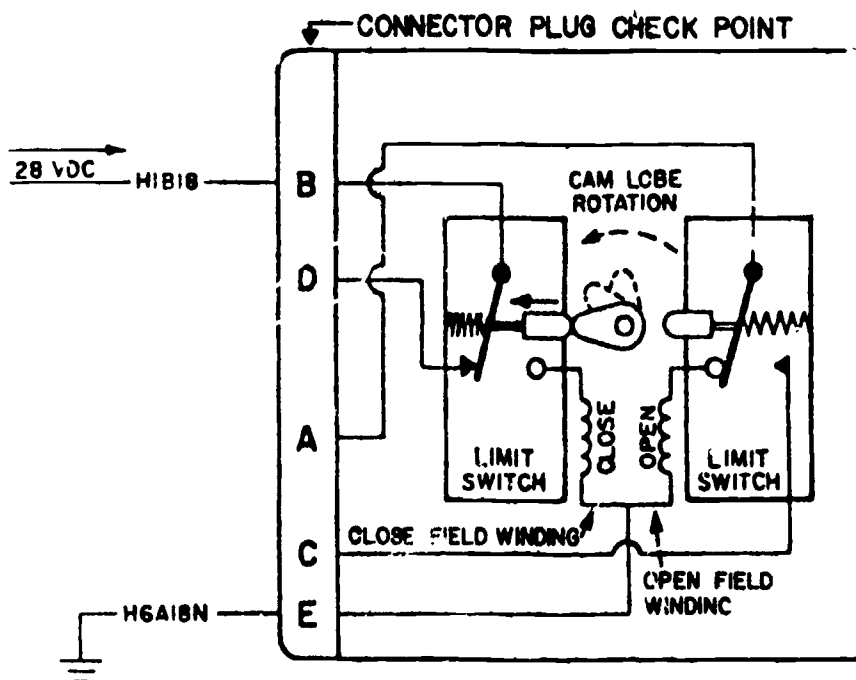

Figure 3a.
a. Refer to figure 3a and notice what happens to the cam lobe and the limit switch after the butterfly for motor #1 has traveled to the full closed position.
b. Notice that the cam lobe has rotated around and has depressed (pushed in) the limit switch button for the closed side of the motor. If you study figure 3a very closely, you will notice that the cam lobe has depressed the limit switch spring and has moved the pole of the switch. Through this action, the voltage has been removed from the closed field winding of the motor. As we stated previously, one of the purposes of the limit switch is to stop the valve from closing or opening too far. We do this simply by removing the power from the motor with the use of the limit switch and the cam lobe.
c. Look again at figure 3a and you will notice that since the limit switch button has been depressed, the 28 volts of power that was used to close the valve butterfly has now been rerouted to check point D of the connector plug. Later in this PT we will use this voltage to operate another motor. But remember, if motor #1 does not operate, the limit switch will not reroute the voltage.